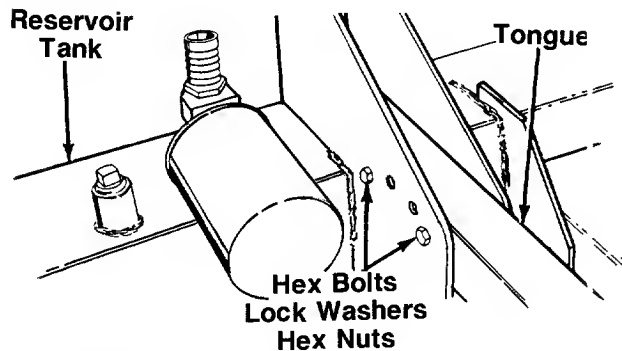

FIGURE 4.
2. Remove the two hex bolts, lock washers and hex nuts on the front of the reservoir tank. Two 9/16" wrenches are required. Place the tongue in position, and secure with hardware just removed. See figure 4.